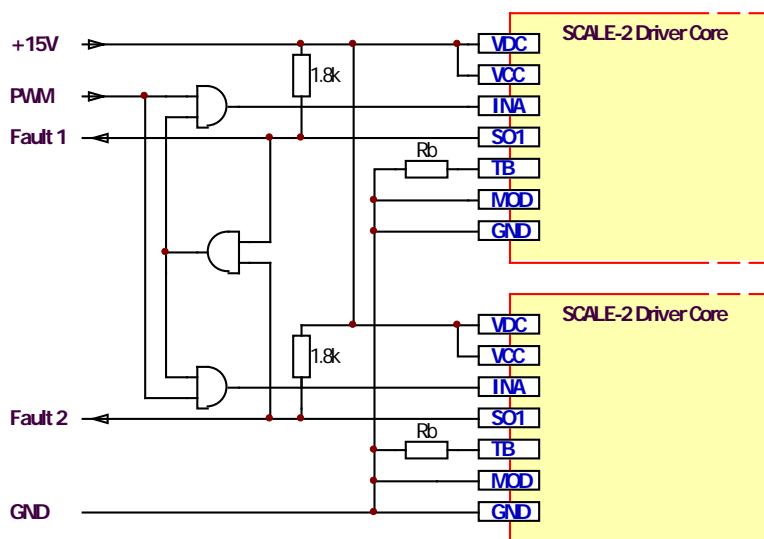

Fig. 2: Recommended primary-side interface for two paralleled gate drivers as an example
- The supply voltages VCC and VDC (if available) of all parallel connected drivers must come from the same voltage source in order to ensure symmetrical operation of the drivers (see Fig. 2).
- Both input signals INA and INB of all parallel connected drivers must come from the same logic buffer (driver) in order to ensure very small delay differences (see Fig. 2).
- In case of fault turn-off, it is necessary to wait until the fault feedback of all paralleled drivers is reset in order to ensure that the blocking time of all paralleled drivers has elapsed. The corresponding circuit in Fig. 2 can be used to satisfy this requirement.